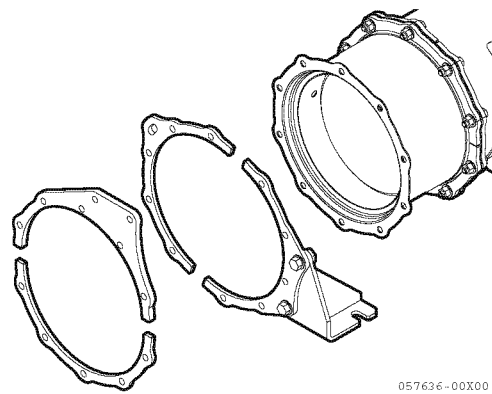
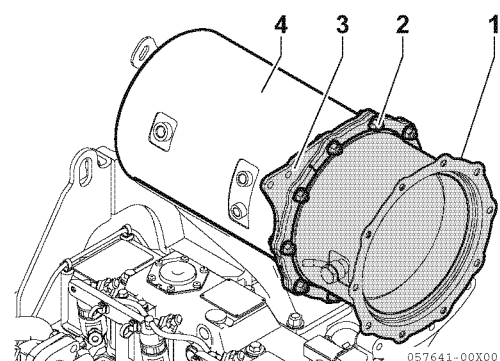

Figure 13-14
Figure 13-19
- SF cleaning is also possible while the exhaust pressure pipe is attached, therefore it is not necessary to remove the pipe joint bolts (Figure 13-14, (3)).
- Remove the stiffeners (4 pcs.) (Figure 13-14, (6)), gasket (1 pc.), and the silencer (or outlet flange). Put marks on the stiffener before removing to identify the position and angle so that it can be easily reinstalled.
5. Removal of the soot filter (SF)
- Remove the M8 bolts and flange nuts (Figure 13-19, (2)) (8 or 10 of each) that fix the SF (Figure 13-19, (1)).
- Remove the stiffeners (4 pcs.) (Figure 13-19, (3)), and remove the SF and gasket from the DOC (Figure 13-19, (4)). Put marks on the stiffener before removing to identify the position and angle so that it can be easily reinstalled.